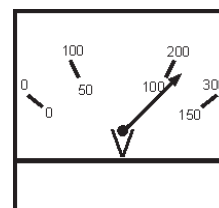
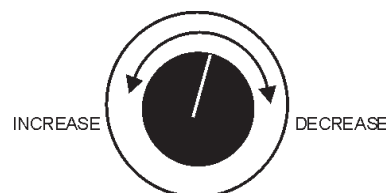

Figure 44. Voltage Meter (Volts)
Figure 45. Voltage Adjust Control Knob
- The generator's voltage meter (Figure 44) displays the 120 VAC in **VOLTS**. If the voltage is not within the specified frequency tolerance, use the voltage adjustment control knob (Figure 45) to increase or decrease the desired voltage.